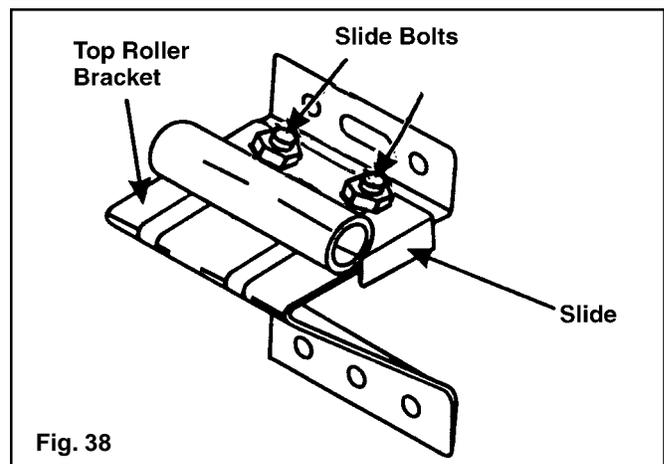

Fig. 38
**Step 11:** To complete the door section installation, tie the pull rope provided to the bottom roller shaft. (FIG. 38)